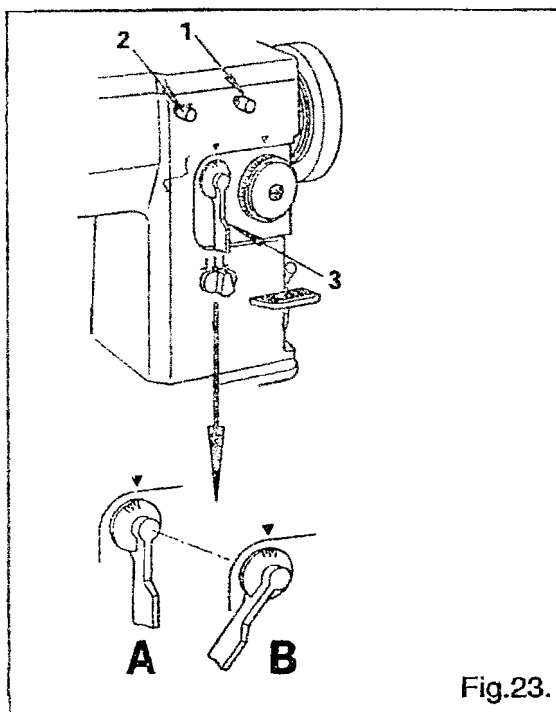

Fig.23.
19. THE ADJUSTMENT OF HORIZONTAL DISTANCE (Fig.23)